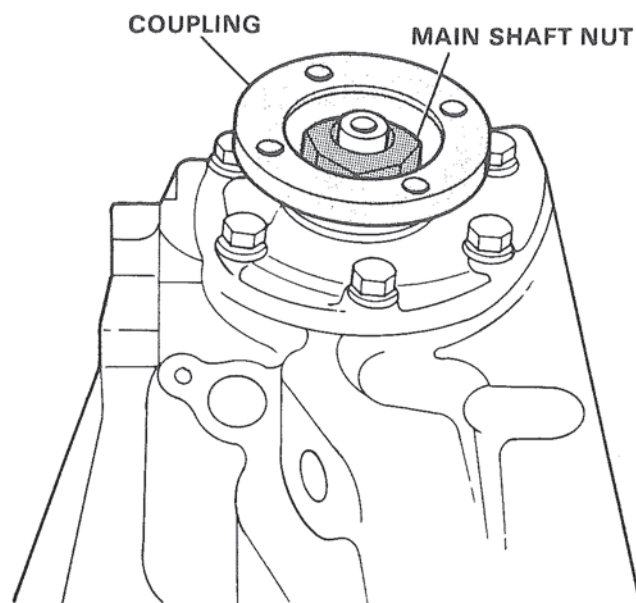

Figure 35. View of Complete Assembled Output Shaft.
6. Remove main shaft nut shown in Figure 35.